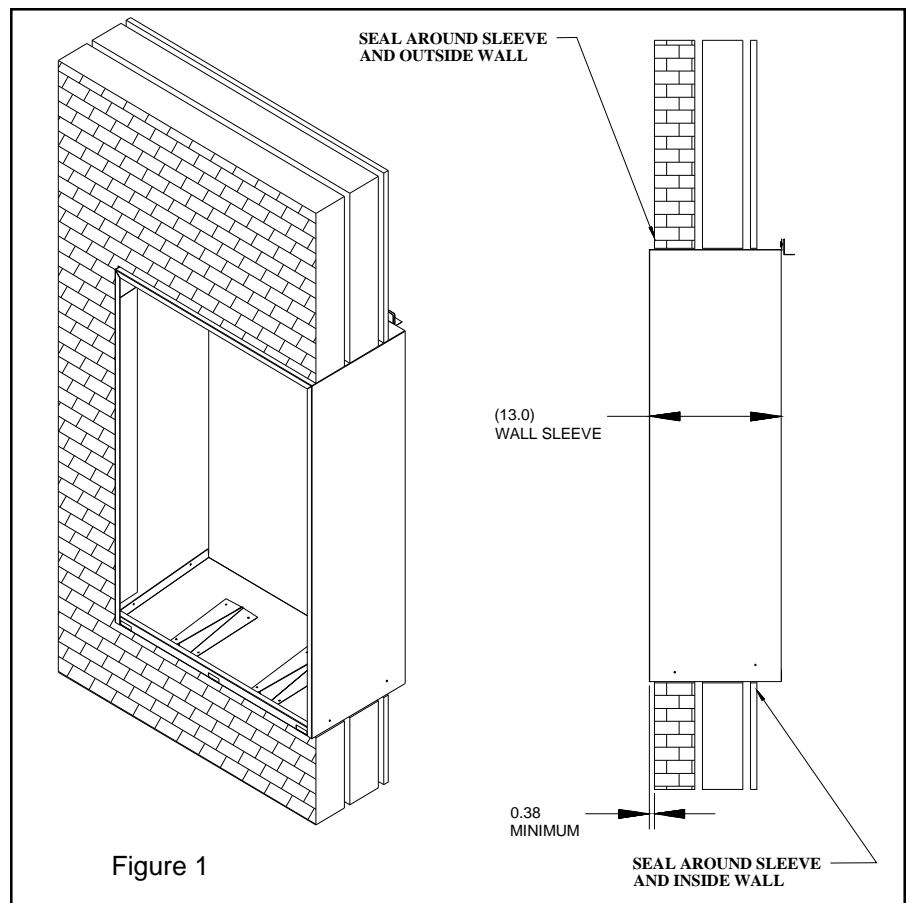

Figure 1
- (1) It is recommended that the sleeve protruded 3/8" to 1/2" beyond the outside finished wall, (see fig. 1). Install wall sleeve into precut opening 27-5/8" wide x 41-3/4" high.
- (3) After installing wall sleeve place a bead of silicone sealant or other high grade non-hardening sealing compound approved for exterior use around the perimeter of the wall sleeve face outside. Also seal around the sleeves perimeter and the finished inside wall, as shown in (figure 1).